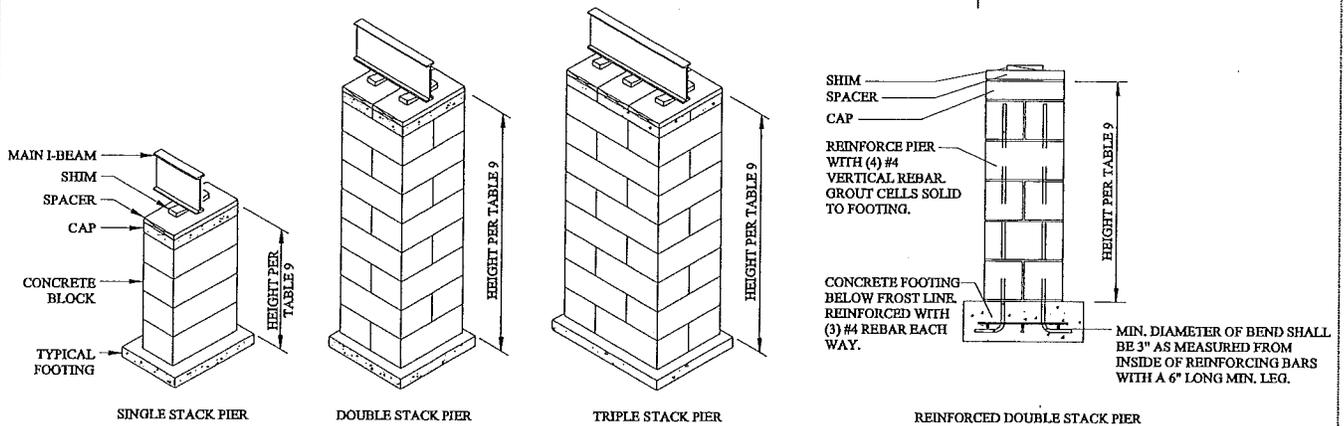

Figure 16. Frame pier construction.
- Stack blocks.** Stack concrete blocks with their hollow cells aligned vertically. When piers are constructed of blocks stacked side-by-side, orient each layer at right angles to the previous one (**Figure 16**) and plan blocks so that split caps will be perpendicular to the blocks they rest on and perpendicular to the main I-beam.